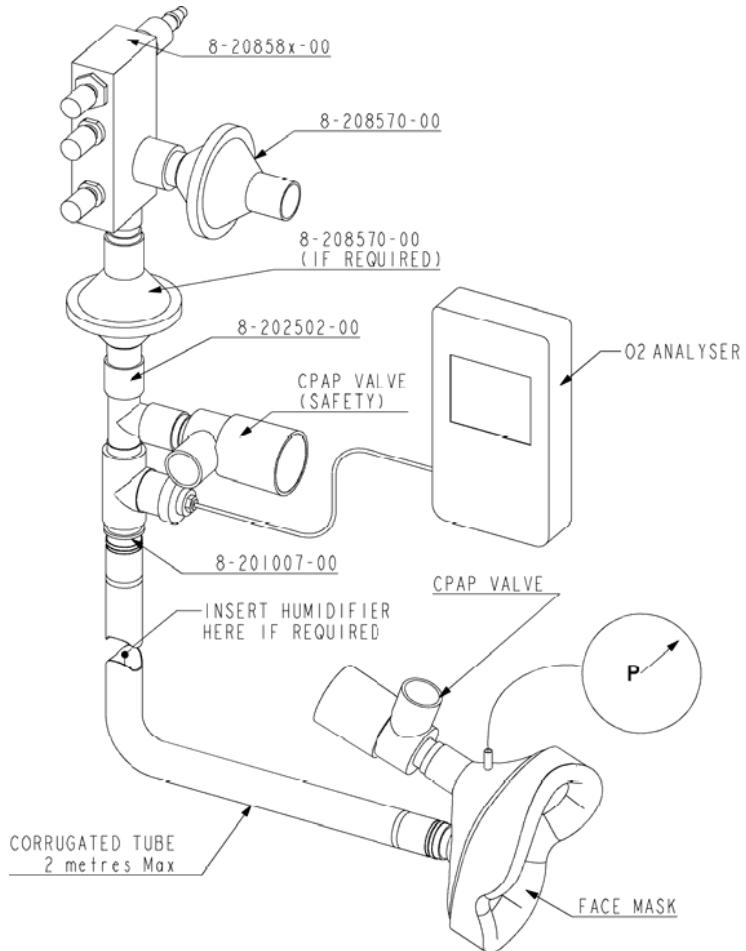

Figure 2. Dual-port mask, oxygen probe with integrated tee piece
1. Select a sealing face mask or endotracheal (ET) tube as the patient connection. Ensure that the mask fits comfortably, seals the bridge of the nose, and fully covers the nose and mouth.
3. Assemble the circuit according to Figures 2 through 6, depending on the mask, oxygen analyzer, pressure gauge or monitor, and humidifier you are using. As you assemble the circuit, please note:
Notes to Figures 2 through 5
The notes below apply to Figures 2 through 5 above:
- Figures 2 through 5 show how to assemble the WhisperFlow system and WhisperFlow accessories. The WhisperFlow unit should only be used with the accessories supplied by the manufacturer, Resironics, or its authorized agent. In particular, the face mask has an integral one-way valve, which prevents exhalation into the delivery tubing in the event of no fresh gas flow. When used with a tee-piece however, exhalation into the delivery tubing will result in CO₂ rebreathing, and may result in asphyxia.